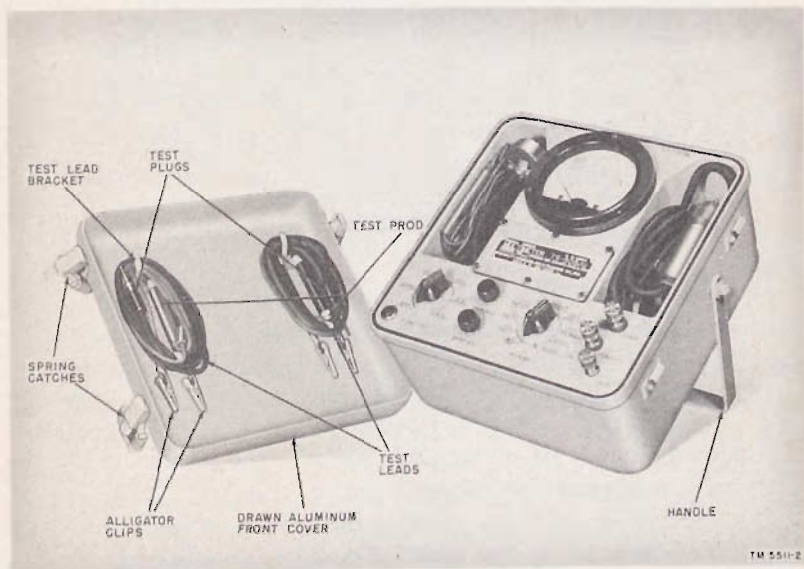
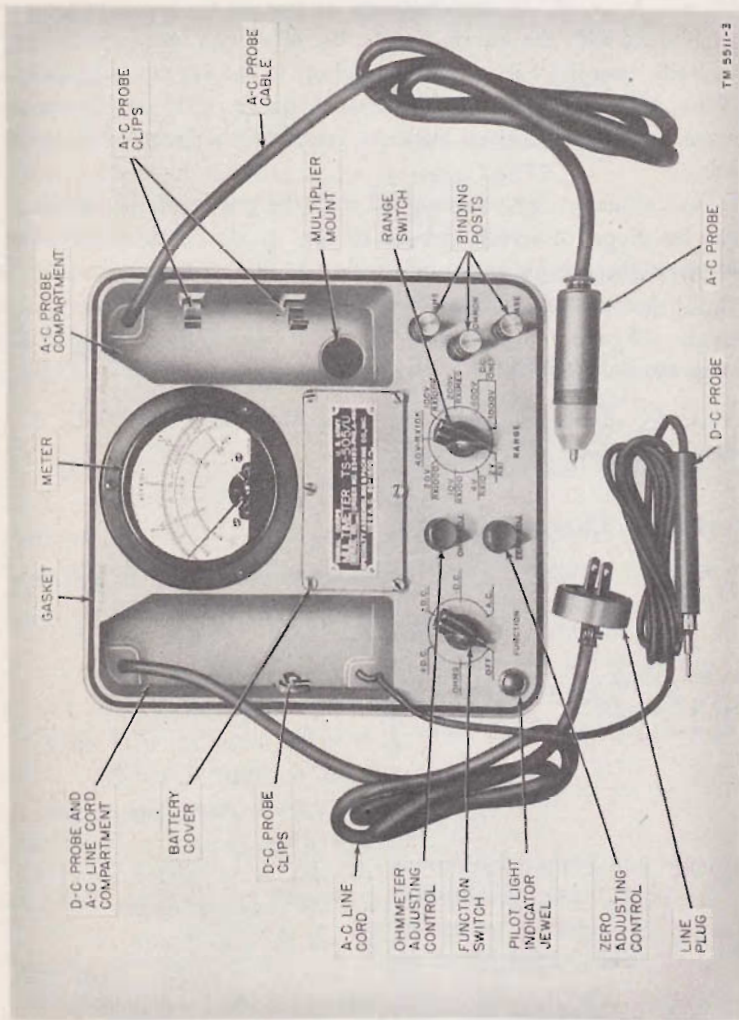
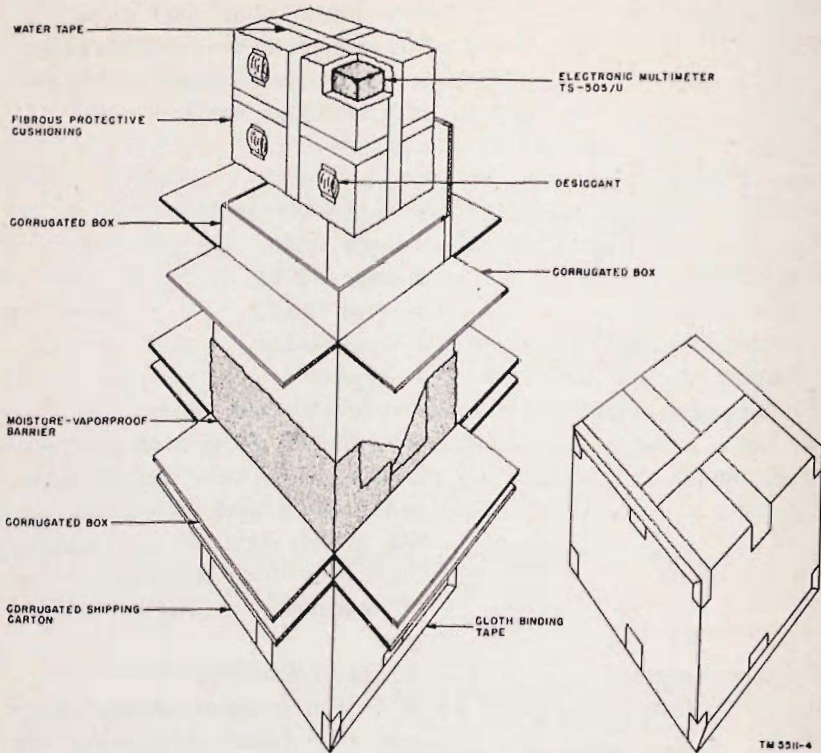

Figure 2. Electronic Multimeter TS-505/U, with handle locked in position.
Figure 3. Electronic Multimeter TS-505/U, front panel.
Figure 4. Electronic Multimeter TS-505/U. packing details.
a. DESCRIPTION OF ELECTRONIC MULTIMETER. (1) Electronic Multimeter TS-505/U is a general purpose a-c (alternating-current) and d-c (direct-current) vacuum-tube voltmeter and a d-c ohmmeter. It is a self-contained unit.
(2) The cover of the multimeter is attached with four spring catches (fig. 2). Two sets of test leads for use with the multimeter are contained in the cover. The handle may be pivoted and locked into position to act as a stand, thus permitting the operator to place the multimeter at a comfortable viewing angle (fig. 2). Six screws are used to attach the rear cover of the multimeter. These screws serve as legs which protect the meter case when it is placed in a horizontal position.
(3) The multimeter is made completely watertight by means of two peripheral rubber gaskets (on the back and on the front of the front panel); by rubber gaskets behind the meter and the battery cover; and by O rings, or washers, behind the potentiometers, the switches, the binding posts, and the pilot light indicator jewel.
c. EQUIPMENT FEATURES. (1) Voltages and resistances are measured by a specially calibrated milliammeter. The d-c and a-c voltages are read on the outer arc (black) of the scale (fig. 3). The resistance scale is the second largest arc (green). The zero center d-c scale is the third largest arc (blue). The 0- to 2-volt a-c range is the innermost arc (purple). The meter is hermetically sealed.
(2) There are nine d-c voltage ranges which permit measurement of voltages from .05 to 1,000 volts. The appropriate voltage range is selected with the RANGE switch. The input resistance is 20 megohms on all d-c voltage ranges except the 1,000-volt range; for the 1,000-volt range, the input resistance is increased to 50 megohms.
(3) There are seven a-c voltage ranges which permit measurement of voltages from .05 to 200 volts. The appropriate voltage range is selected with the RANGE switch. The input capacity is 2 uuf (micromicrofarads)
a. FRONT PANEL. The front panel (fig. 3) includes the following:
(1) A compartment for storing both the d-c probe and the a-c line cord.
(2) A compartment for storing the a-c probe.
(3) A 0- to 1-ma (milliampere) meter calibrated for the various ranges.
(4) Three binding-post type terminals for test leads. These binding posts are labeled OHMS, COMMON, and CASE. A rectangular slot in the binding posts will accept pin jacks, spade lugs, or wire.
(5) A FUNCTION switch for switching the meter on when the A C, +D C, ±D C, -D C, or OHMS position is selected. This switch also turns the power off in the OFF position. The pointer on the bar knob indicates the function selected.
(6) A RANGE switch for selecting the proper voltage or resistance range. The pointer on the bar knob indicates the range selected.
(7) An ohmmeter adjusting control (OHM ADJ) to compensate for the decrease of the ohmmeter battery voltage.
Electronic Multimeter TS-505/U is individually wrapped in a waterproof, fiberboard container and packed in a fiberboard packing case (fig. 4). The dimensions and weight of the multimeter packaged complete with tubes and technical literature are shown in the table below.
(1) Place the packing case (fig. 4) in a convenient location where it may be opened easily.
(2) Cut the cloth binding which seals the exterior carton in such a manner as to leave the carton undamaged. Open the carton. Remove the inner corrugated box and open it.
(3) Lift the moisture-vaporproof barrier from the carton. Open the side of the carton and pull out the inner carton.
(4) Carefully cut the tape sealing the inner fiberboard box so that the carton will not be damaged. Open the carton. Remove the inner corrugated box and open it.
(5) Remove the cushioning and desiccant from the inner fiberboard box.
(6) Carefully lift the multimeter from the inner carton and place it on a solid table or workbench.
(7) Place the cushioning and the cartons into the outer carton for future use. They can be used again when the multimeter is repacked for storage or shipment (ch. 5).
(8) Check the contents against the master packing slip and against the list of components in paragraph 4. The test leads will be found on the front cover.
c. INSPECTION. (1) Inspect the multimeter thoroughly. Make sure that it has not been damaged in shipment or during unpacking. Inspect the carrying handle to see that it swings freely on the pivot point and will lock in position (fig. 2) to support the meter in an inclined position.
(2) Check the four catches on the front cover. Remove the front cover by unfastening the catches.
13. Controls (fig. 3)